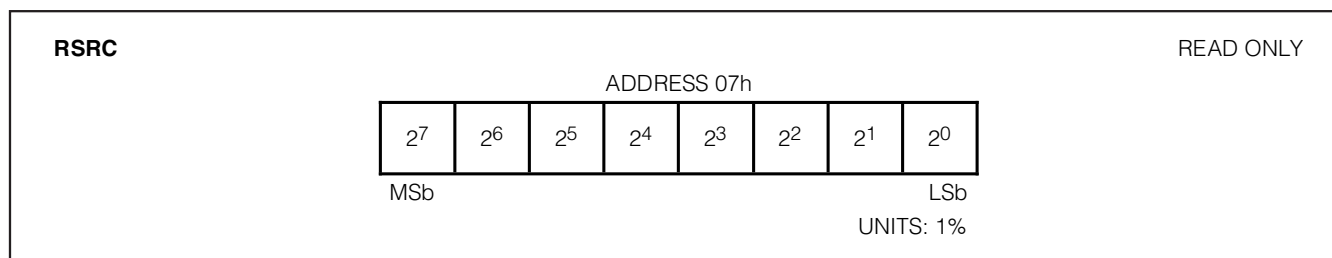

Figure 17. Remaining Standby Relative Capacity Register Format
**Remaining Standby Relative Capacity, RSRC [%]:** RSRC reports the capacity available under the current temperature conditions at the standby empty discharge rate (ISE) to the standby empty point capacity in relative units of percent. RSRC is 8 bits. See Figure 17.